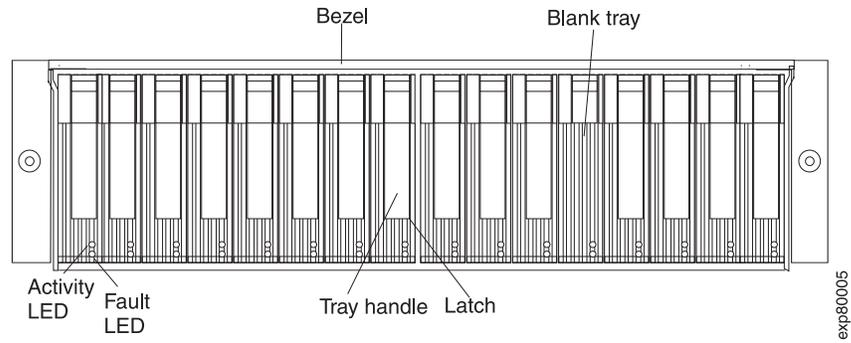

Figure 73. Hot-swap hard disk drive LEDs
2. Check for Fault LEDs shown in Figure 73 on page 113. If any amber LEDs are lit, see “Solving problems” on page 135.